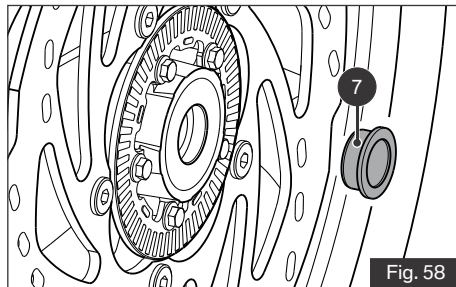

Fig. 58
side of the wheel hub (ref. Fig. 58).
- ♦ Loosen the mounting screw (8) and take out the speed sensor (9) from front suspension.
- ♦ Fix the spacer bush (7) on the left side of wheel hub (ref. Fig. 58).